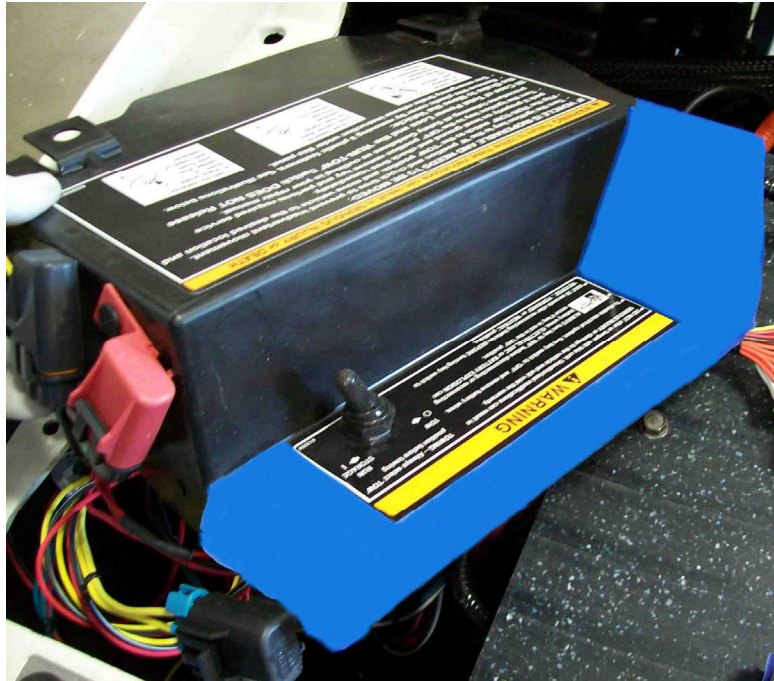

Fig. 9
3. After relocating the fuse holder, note the blue area on the controller splash guard depicted in the picture (Fig.9). This material needs to be cut away.